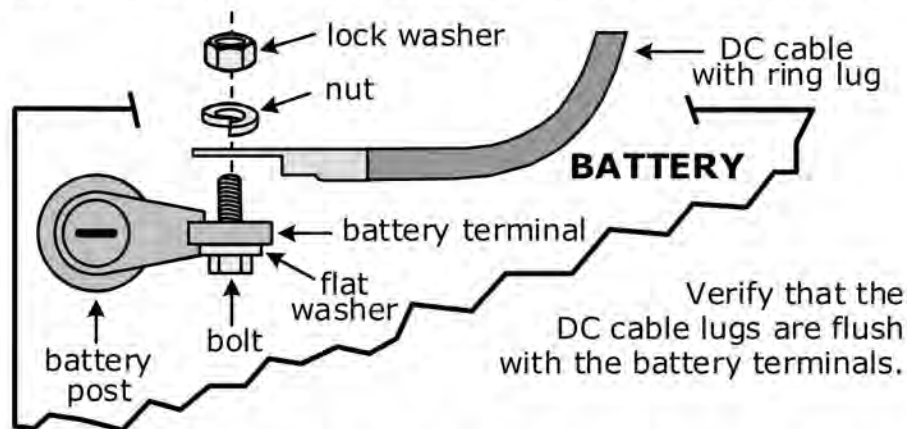
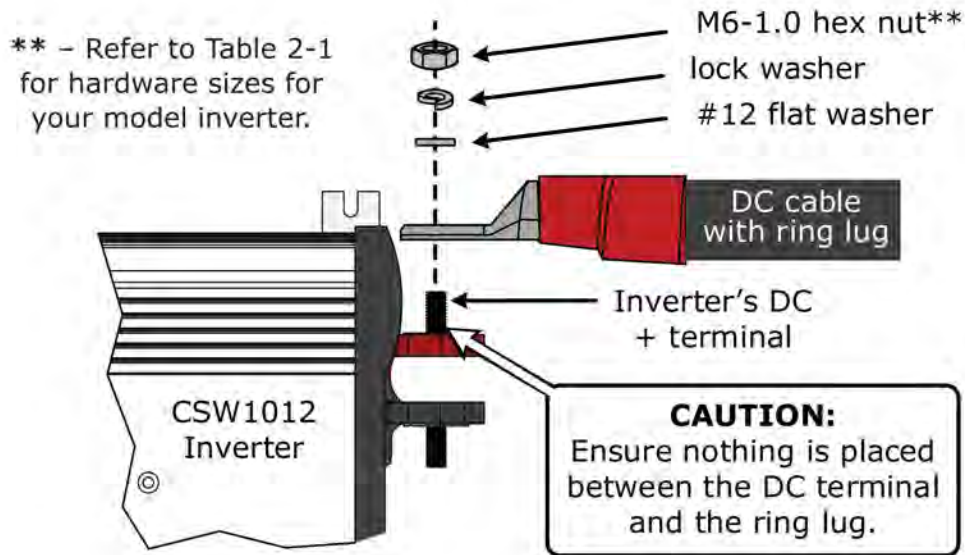

Figure 2-7, DC Cable to Battery Terminals
Figure 2-8, DC Cable to Inverter's DC Terminals
Refer to Figure 2-7 when connecting the DC wires to the battery, and to Figure 2-8 when connecting to the inverter. Also, consider the following requirements to ensure maximum performance:
Do not put anything between the battery cable ring lug and the battery post (see Figure 2-7), or the flat metal part of the inverter's DC terminal (see Figure 2-8). When connecting the battery cable, it should be placed directly against the battery post or inverter terminal. Incorrectly installed hardware causes a high resistance connection which could lead to poor inverter performance, and may melt the cable and terminal connections. See Table 2-1 for the torque requirements.
5. Ensure the DC wire connections (on batteries, inverter, and DC circuit breaker/fuse) are flush on the surface of the DC terminals, and all hardware stacked correctly (see Figures 2-7 and 2-8). Verify all DC connections on the inverter are torqued correctly (see Table 2-1), and the total cable distance from the inverter to the battery is within the requirement of Section 2.4.1 (DC Wire Sizing).